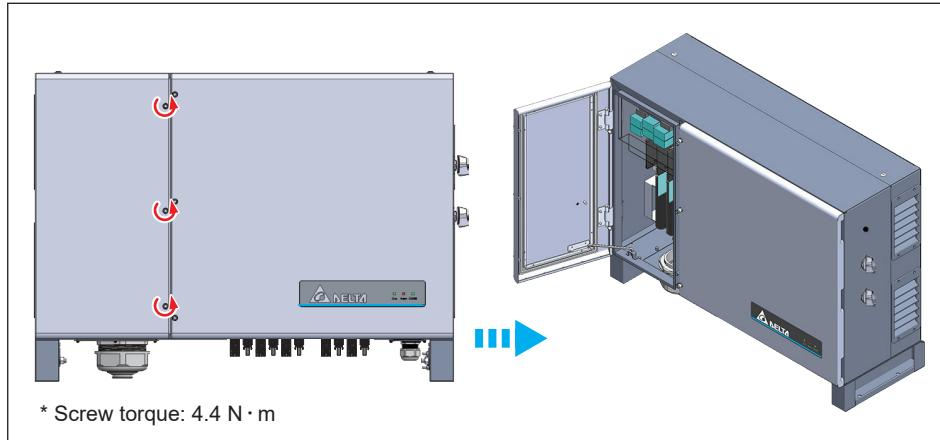

**Figure 3-13: To secure inverter grounded brackets to ground-mounting base**
2. The grounded base horizontally (perpendicular to the floor), and mark required mounting hole locations per **Figure 3-13**.
4. Secure the grounded brackets on the grounded base with 4 M10 screws per **Figure 3-13**.